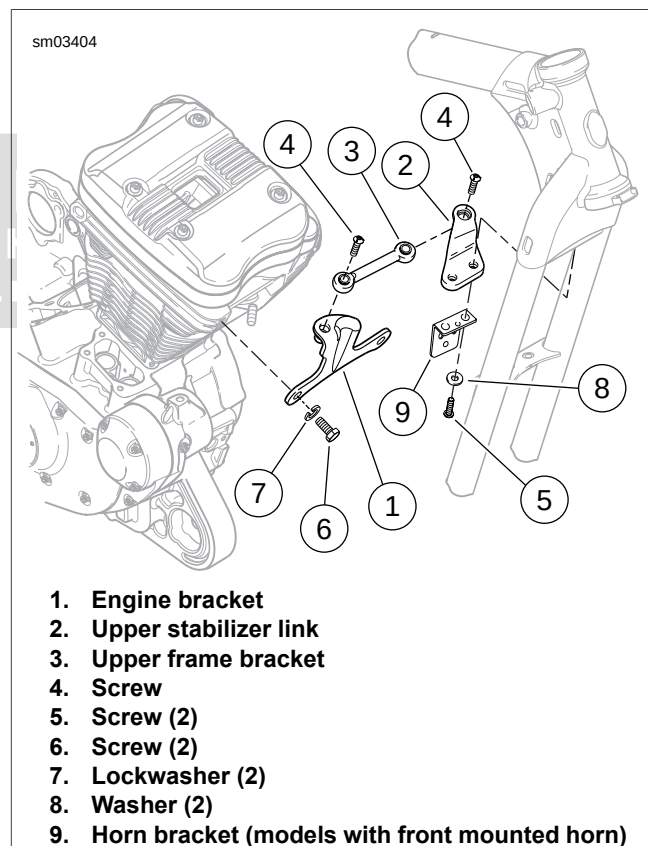

Figure 3-103. Upper Front Stabilizer Link Assembly (typical)
1. See Figure 3-103. Install upper front stabilizer link and frame bracket:
- a. Install upper frame bracket (3) with upper stabilizer link (2), horn bracket (9) (models with front mounted horn), screws (5) and washers (8). Tighten to 25-35 ft-lbs (33.9-47.5 Nm).
- b. Install screw (4) securing stabilizer link to engine bracket (1). Tighten to 25-35 ft-lbs (33.9-47.5 Nm).